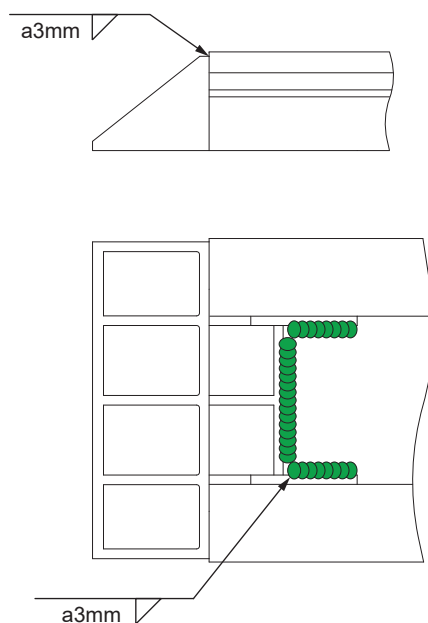

Figure 2
- Install the aluminium end caps (Hallco #41-7060) by inserting them into the end of the slat and weld the end cap as shown (fig. 2).